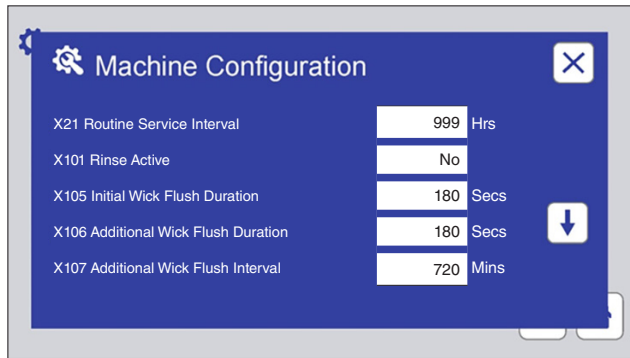
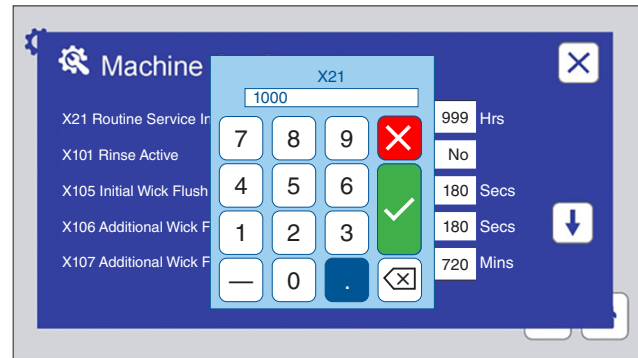

Figure 9.7u: Touch the down arrow to display additional parameters. Touch the parameter text box to change the value.
Figure 9.7v: Use the numeric keypad to enter a value, then touch the check mark button. Touch the Machine Configuration Save Icon to save the changes.
- o Machine Configuration (Figure 9.7u and Figure 9.7v). Contact Q-Lab Repair and Tester Support for more information on using this setting.
- On the Settings screen touch the Machine Configuration icon to display the screen (Figure 9.7u and Figure 9.7v).